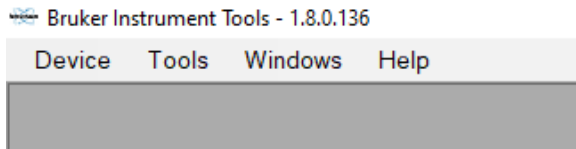
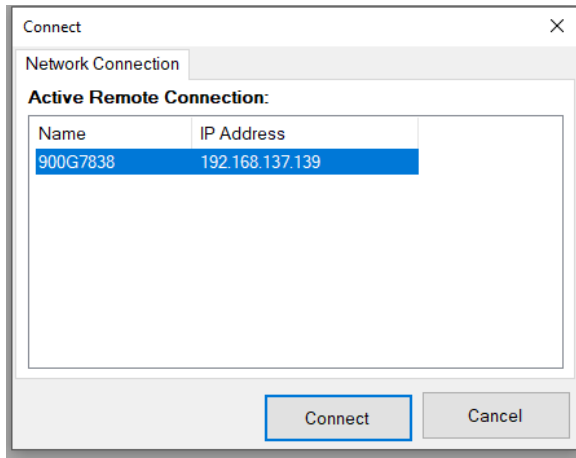

Figure 10. Connect the device to Bruker Instrument Tools.
Figure 11. Connect window.
1. Go to **Device** → **Connect** → Select **900G7838** → and click **Connect** (Figure 10 & Figure 11).